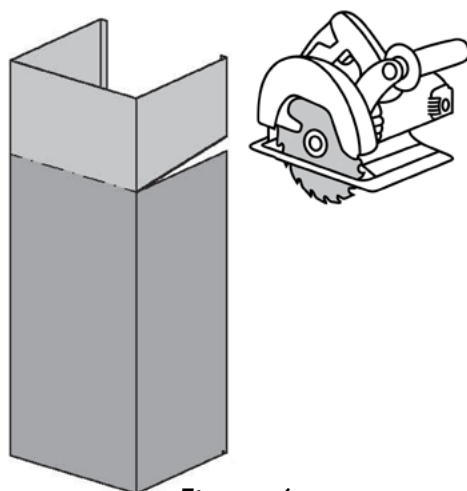

Figure 6
8. After precisely measuring the distance between the top of the range hood and your ceiling, have a trained professional cut your one-piece designer chimney to the desired length; you must leave a 2 1/4" gap between the chimney and ceiling in order to install the crown molding. *Figure 6*